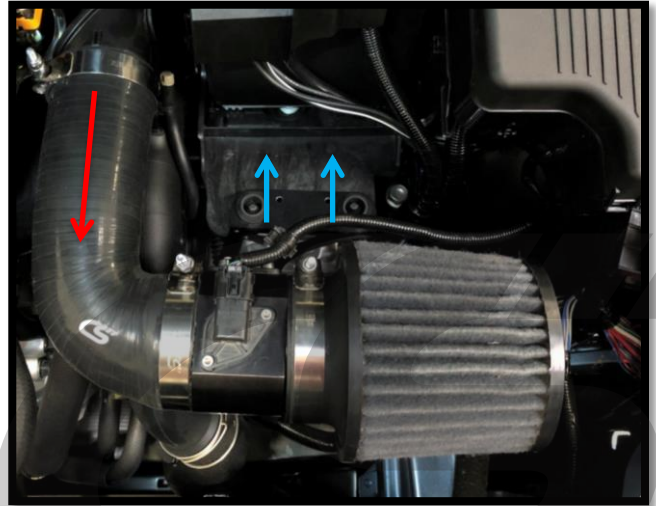

Figure 5b
- c) Pull the CS SRI silicone free from the turbo inlet pipe by pulling in the direction of the **red arrow** in **Figure 5b**.
- d) Remove the CS SRI from the vehicle as a unit by pulling the support bracket upwards and off the two mounting pegs. Pull in the direction shown with **blue arrows** in **Figure 5b**. Place the CS SRI to the side for the time being.